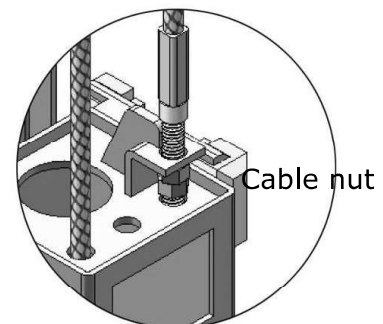

Fig. 48
1. Adjust synchronous cable (See Fig. 48)